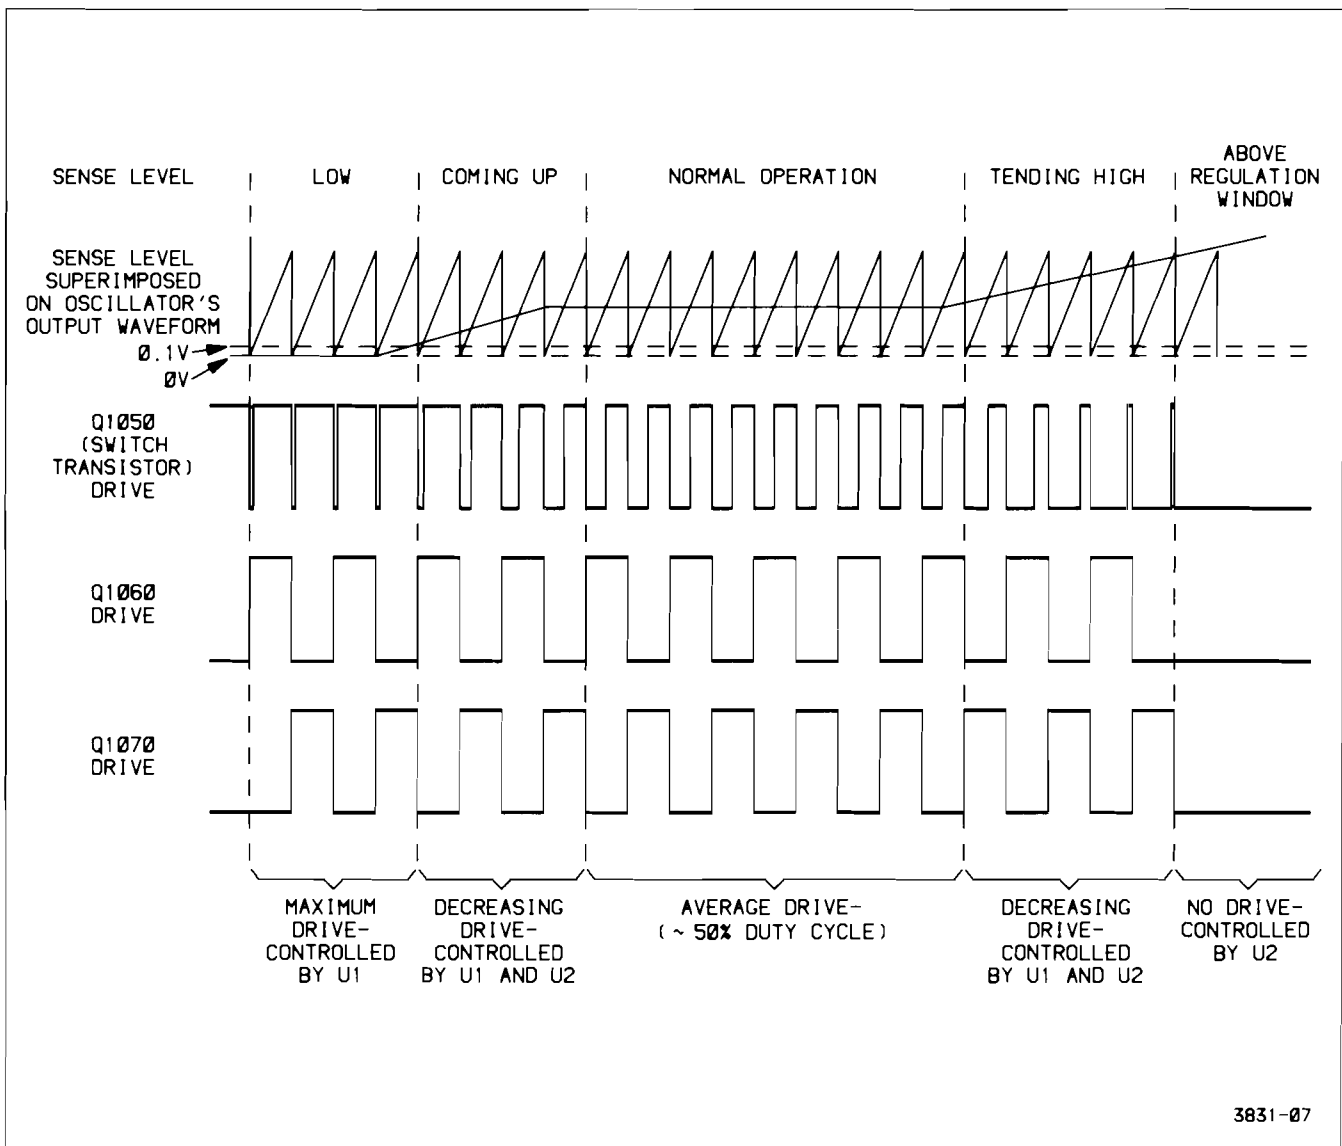
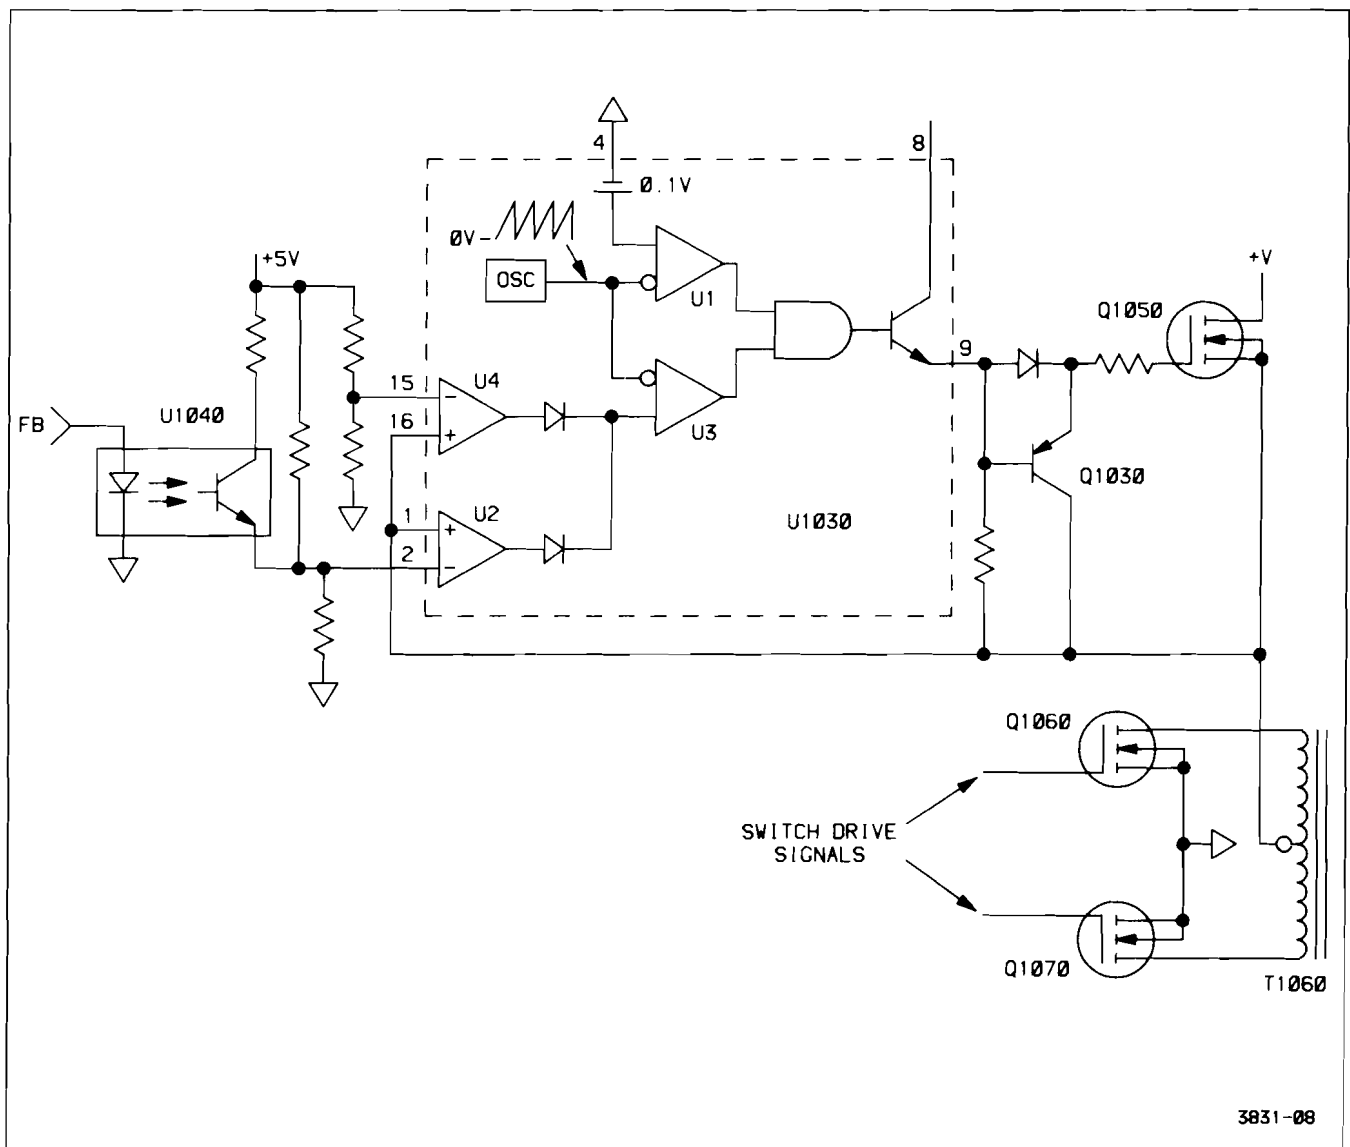

Figure 3-10. Timing relationships of the Inverter Drive signals.
Figure 3-11. Simplified schematic of control network.
**PREREGULATOR START-UP.** As the supply for the Preregulator Control IC is established, an internal switching oscillator begins to run. The oscillator generates a repetitive triangular wave (as shown in Figure 3-10) at a frequency determined primarily by R1032 and C1032. The simplified schematic of Figure 3-11 illustrates the voltage control functions of U1030.